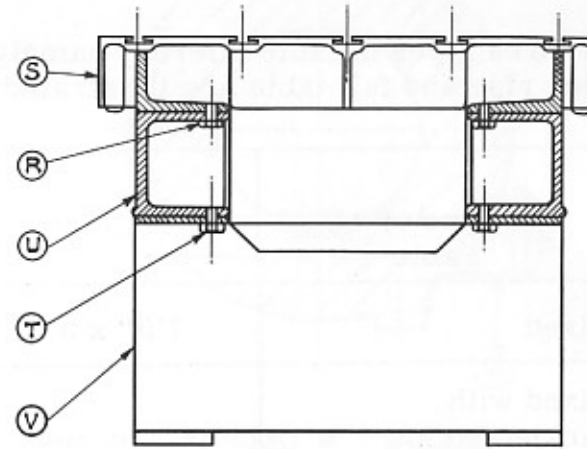

FIG. 16 SECTION THROUGH FIXED TABLE WITH PACKING STRIPS.
1. Unscrew the four hexagon head screws 'R' Fig. 16.